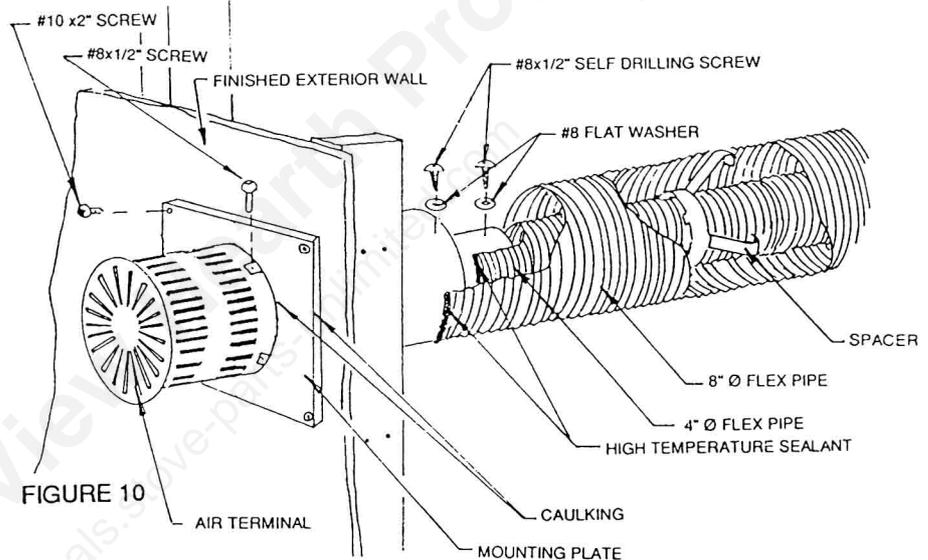

FIGURE 10
2. Attach the wall mounting plate to the exterior side of the outside finished wall using the screws provided. Bend the 4 mounting lugs out to a 90 degree angle. Make weather tight by sealing with caulking (not supplied, figure 10).
3. Insert the air terminal through the mounting plate and attach to the plate using the screws provided. Make weather tight by sealing with caulking (not supplied, Fig. 10). *Slope the air terminal down 1/4" to shed rain water.*
5. Slip an 8" diameter length of aluminum flexible liner a minimum of 2" over the outer sleeve of the air terminal. Secure to the sleeve using 3 screws and flat washers. Seal the joint and screw heads using high temperature sealant (Figure 10).
3. Remove the end cap from the air terminal. Slip a 4 inch diameter length of aluminum flexible liner a minimum of 2 inches over the inner sleeve of the air terminal. Secure to the sleeve using 3 screws and flat washers. Seal the joint and screw heads using high temperature sealant (Fig. 10).